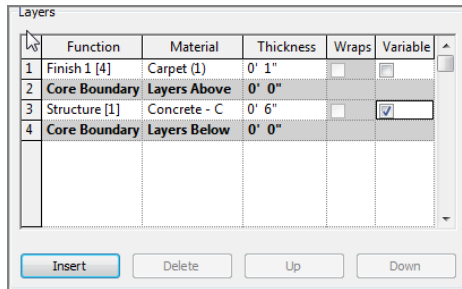

FIGURE 6.39: Adding the new material
16. Search for Carpet (1), and click OK.
18. In the Structure 1 row, select the Variable check box, as shown in Figure 6.39.